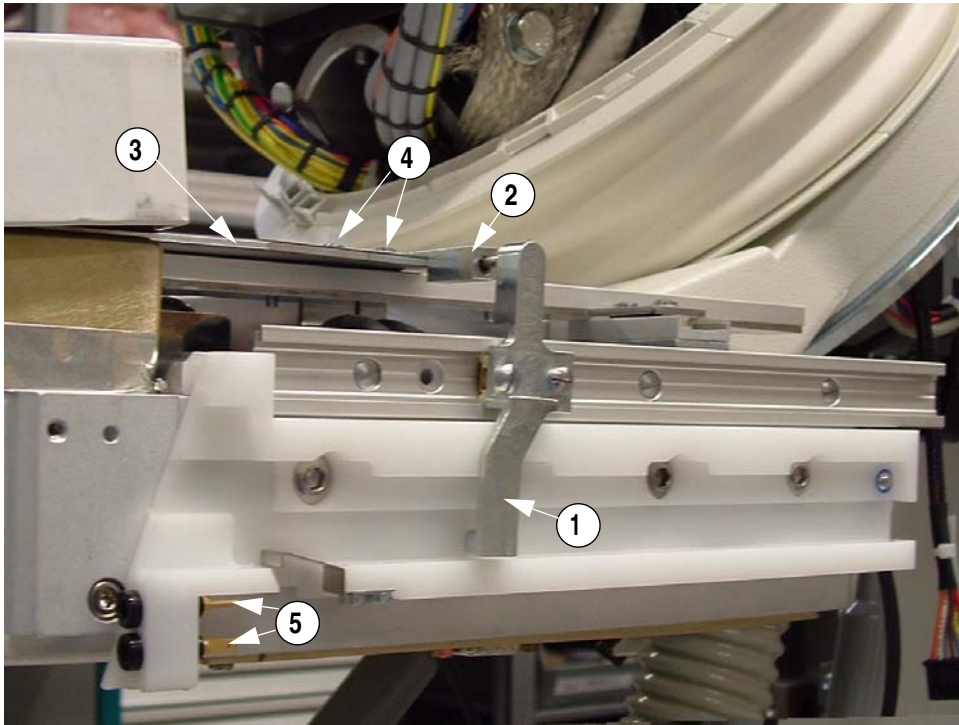

Fig. 7 Grid installation
1. Insert the left and right grid slider (1/Fig. 7) from the back into the rail.
2. Insert the left and right grid holder into the grid slider (2/Fig. 7).
3. Line up the grid to the front of the table. The front switch has to be engaged. Screw the grid (3/Fig. 7) to the grid holder (4/Fig. 7). The marking has to be on top, and the text must be readable.
4. Connect the cables (5/Fig. 7) for the magnification table, according to the labels, on both sides.